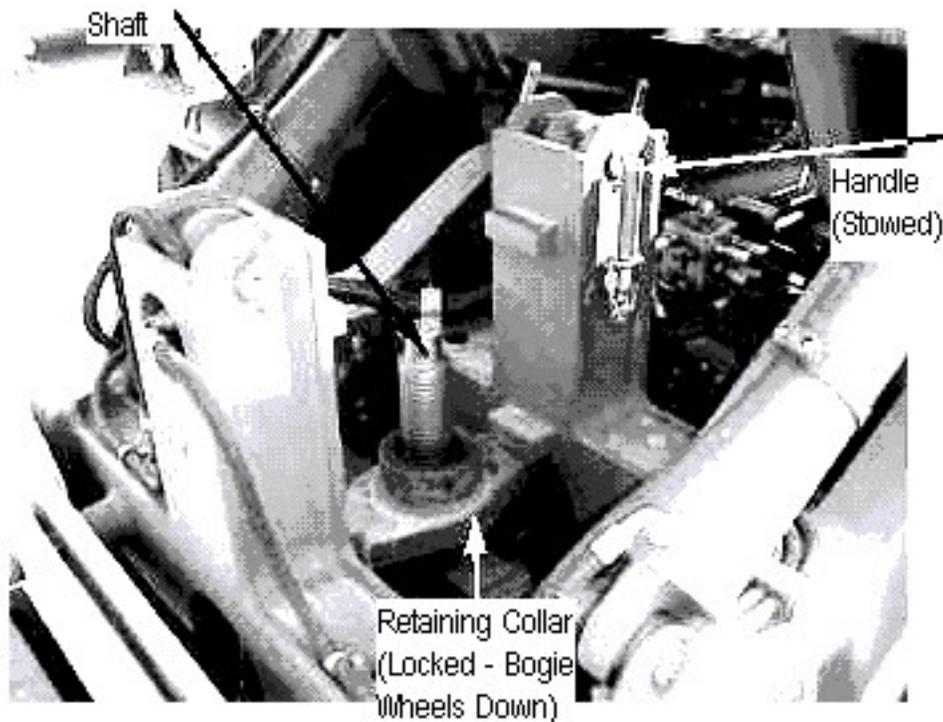

Figure 3-172
x. Rotate bogie wheels retaining collar 1/4 turn clockwise to lock bogie wheels in position, and it may be necessary to screw shaft down to take up slack in bogie wheels lock (see Figure 3-172).